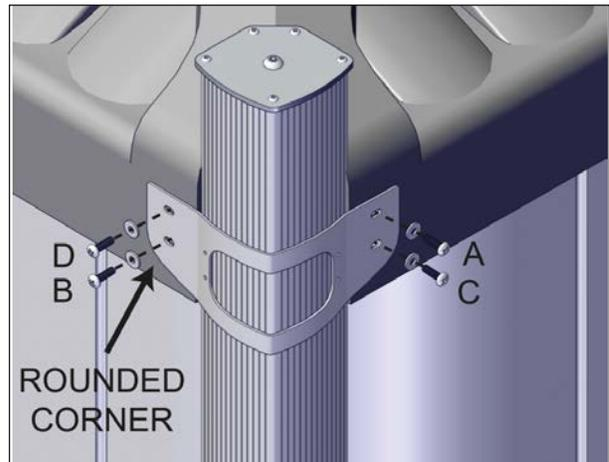
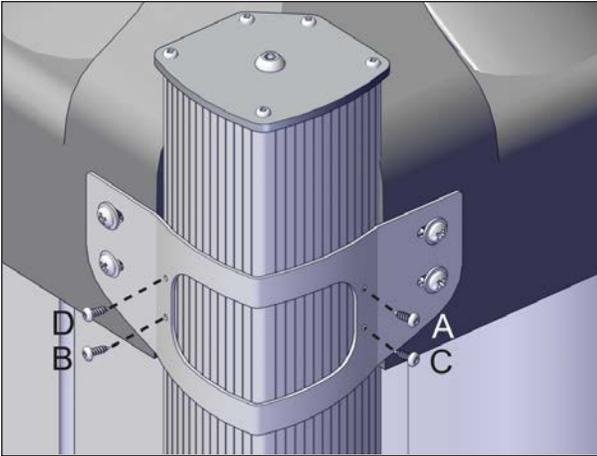

FIGURE 43: INSTALLATION PATTERN FOR CORNER BRACKET SCREWS ATTACHED TO THE COVER
FIGURE 44: INSTALLATION PATTERN FOR CORNER BRACKET SCREWS ATTACHED TO THE SLEEVE
- Install the first outer corner bracket as shown in Figure 43. Fasten the bracket to the cover with four painted Phillips M6 x 20mm bolts and 1/4" painted washers. Install the first screw on position A and for the remaining
screws, keep following the pattern shown in Figure 43.
- Install no. 8 x 1/2" self-tapping screws (4) to fasten the corner bracket to the sleeve and follow the pattern A to D shown in Figure 44.
6. Repeat the previous steps for all corners following the same pattern as shown in Figure 43 and Figure 44.